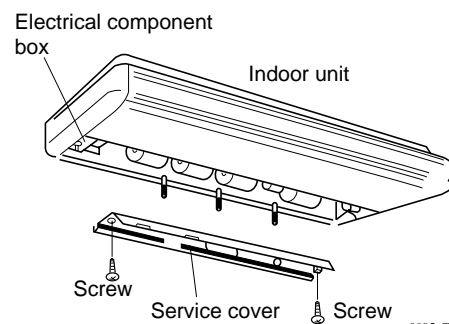
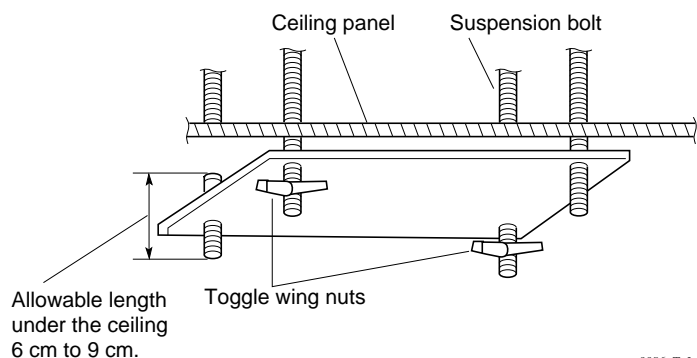

Fig. 3-67
Fig. 3-68
- (5) Before suspending the indoor unit, remove its air-intake grille and service cover. (Fig. 3-67)
- (6) Suspend the indoor unit as follows:
- a) Temporarily mount the supplied toggle wing nuts at diagonal locations (Fig. 3-68) on the suspension bolts.